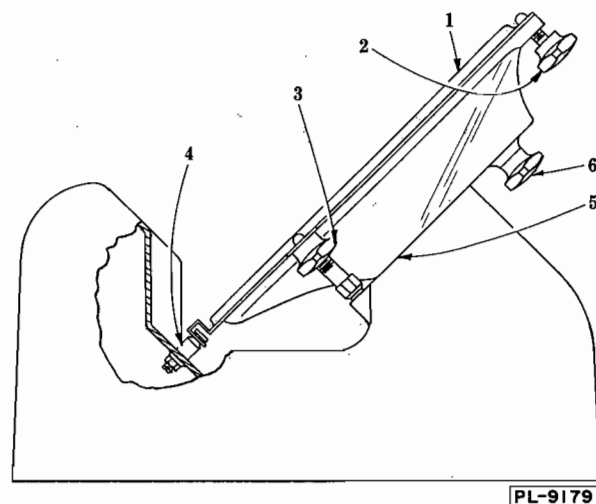

Fig. 3
- 6.2.5 Loosen the two retaining knobs (2 & 3, Fig. 3), rotate the front knife guard (1, Fig. 3) clockwise to clear slots at the screw
heads and unhook from the stud (4, Fig. 3). Lift off guard.
6.2.6 After front guard is removed, the back guard (5, Fig. 3) can then be dis-assembled by unscrewing the knob (6, Fig. 3).
6.2.10 Re-assemble the back knife guard, then the front knife guard. In replacing the front knife guard, first hook the bottom clip over the necked diameter of the stud (4, Fig. 3), then drop the guard over the two round-nosed securing screws. This guard has been so designed, that if this procedure is followed, the knife will not be damaged.